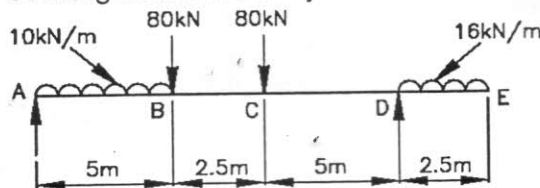

Figure.4(a)
4. a) Draw shear force and bending moment diagram for the beam as shown below in fig.4(a). Locate point of contra flexure. Show the calculations of shear force and bending moment clearly at each and every point of beam.